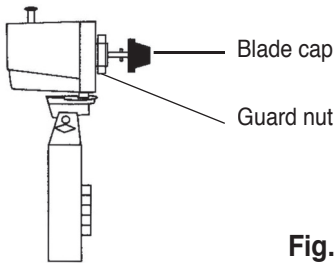

Fig. 1
1. Loosen the blade cap by turning clockwise and rear guard mounting nut by turning counter clockwise. (Fig1)